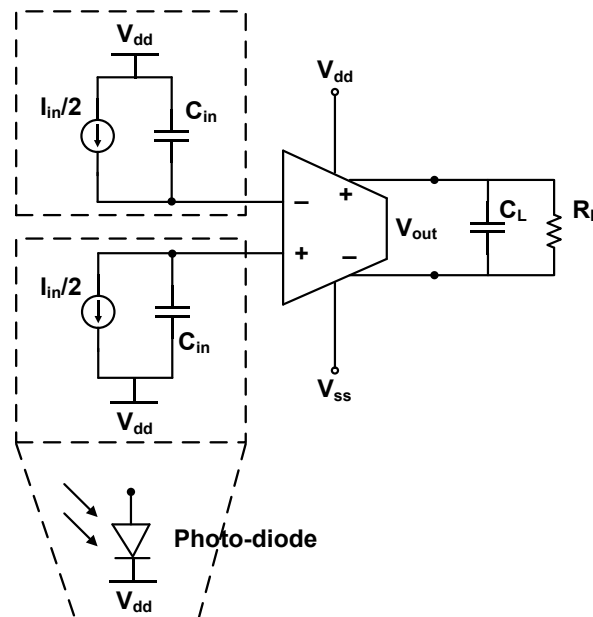
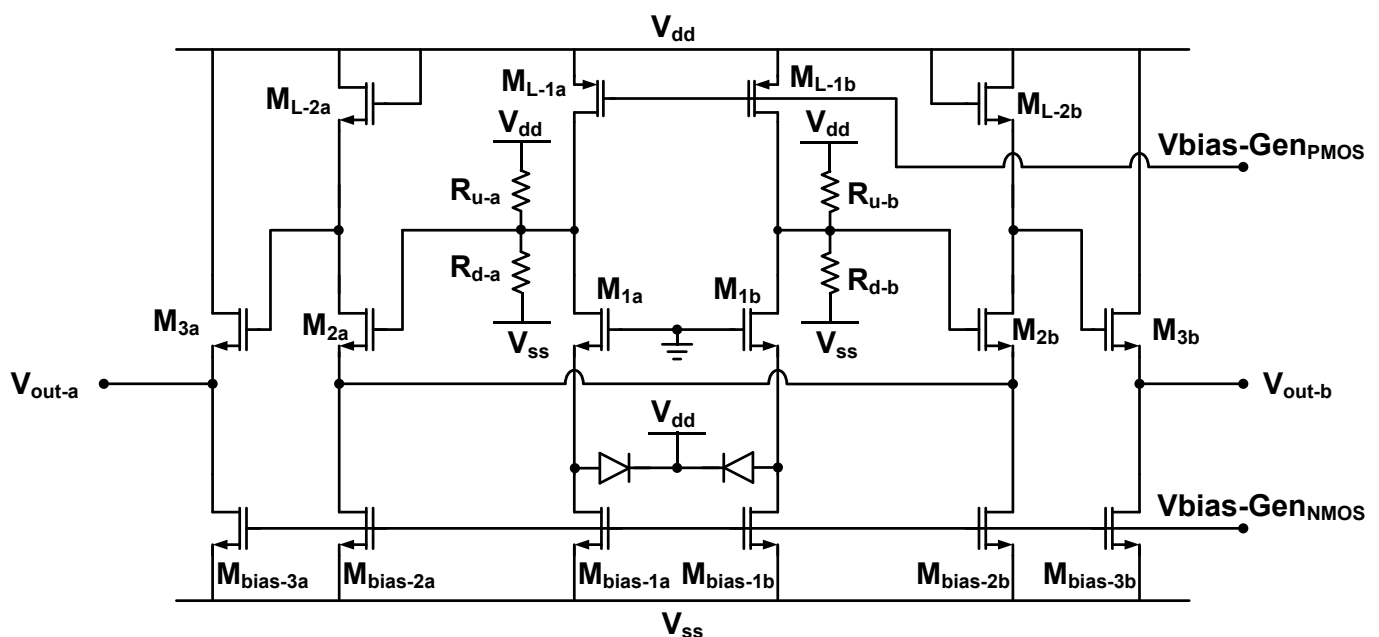

Figure 1: System Level Block Diagram (i.e. replace photo-diodes as shown)
Figure 2: Circuit Architecture
The first task at your new job at Photonic Interface Systems, Inc. (“PHI-SYS,” a new sensor-based startup company) is to design an optical sensor circuit. The system level block diagram is shown in Figure 1. As you can see, the system is fully differential, with the photo-diode at the input modeled as a current source with a capacitor. The output is a differential RC load which typically represents the loading effect from the subsequent stages. The circuit details are shown in Figure 2.
- c) Familiarize yourself with the schematic in Figure 2 and try to identify how the key blocks interact. Draw simplified half-circuit models (differential) of the circuit that will allow you to identify the "main knobs" in the design.